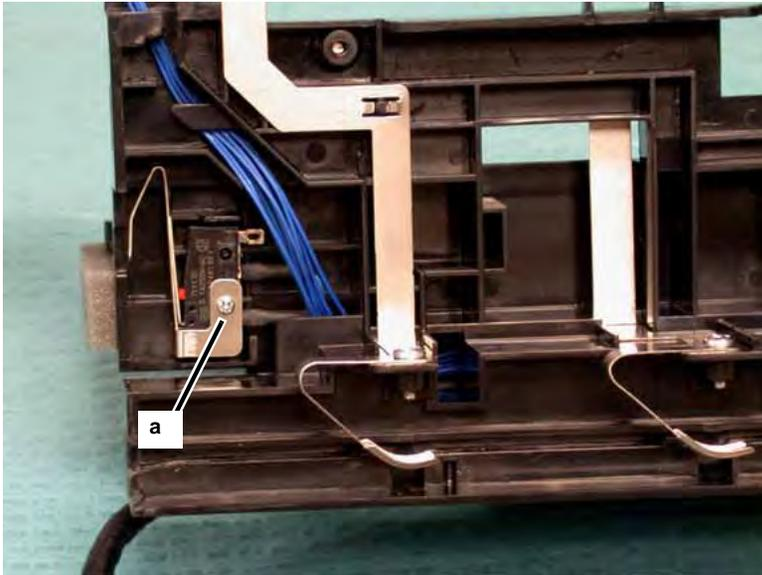

Figure 1 Removing Screw
3. Remove the Xerographic Interlock Switch (Figure 1).
- a. Remove the Screw (1)